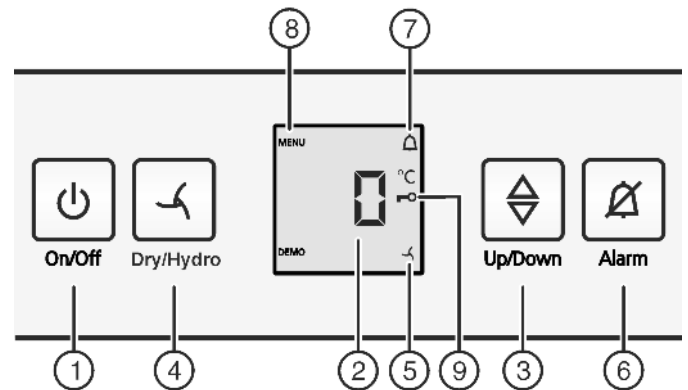

Fig. 2
- ▶ Press On/Off button Fig. 2 (1).
- ▶ To activate setting mode: press the Dry/Hydro button Fig. 2 (4) for approx. 6 seconds.
- ▷ The menu symbol Fig. 2 (8) shines.
- ▶ Briefly press the Dry/Hydro button Fig. 2 (4) to confirm. When **c** is indicated in the display:
- ▶ Briefly press the Dry/Hydro button Fig. 2 (4) to activate the child lock.
- ▷ The child lock symbol Fig. 2 (9) shines. **c** flashes in the display.
- ▶ Briefly press the Dry/Hydro button *Fig. 2 (4)* to deactivate the child lock.
- ▷ The child lock symbol *Fig. 2 (9)* goes out. **c** flashes in the display.
- ▶ To deactivate the setting mode: Press the On/Off button *Fig. 2 (1)*.
- ▶ Press alarm button *Fig. 2 (6)*.